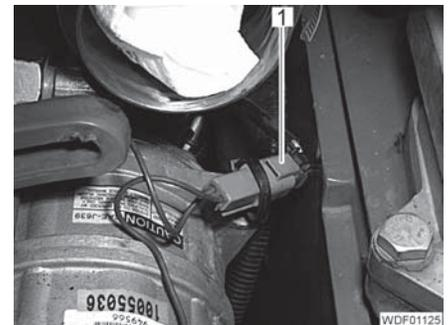

Fig. 405 Electrical plug
- Disconnect the plug (Fig. 405,1).
- Connect the plug (Fig. 405,1).